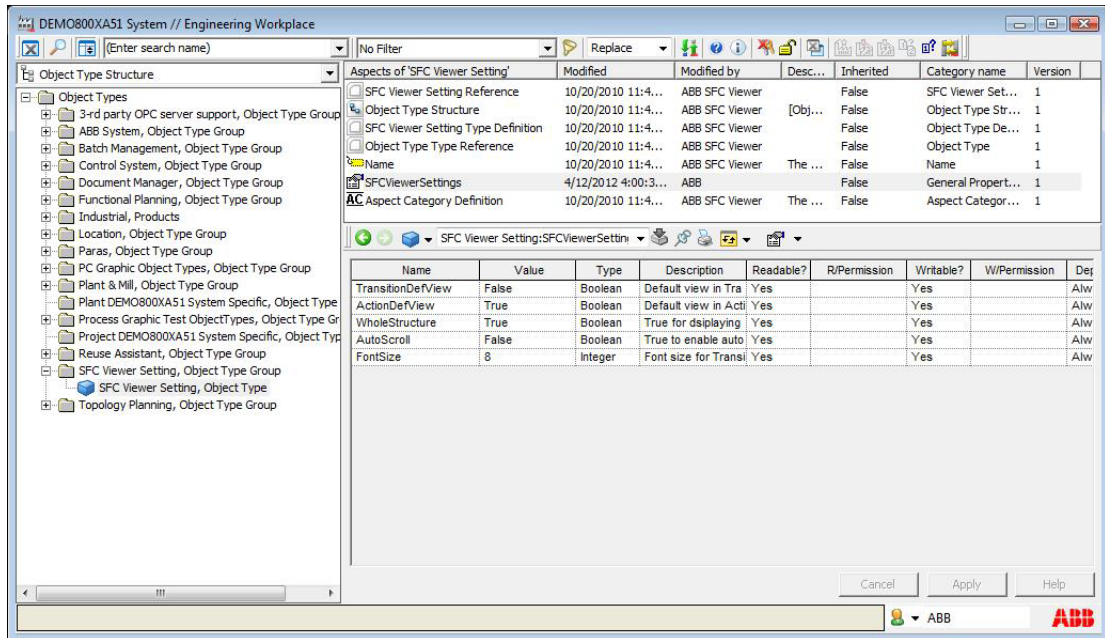

Figure 157. SFCViewerSettings aspect with ActionDefView property
1. Open **Object Type Structure > SFC Viewer Setting > SFC Viewer Settings** aspect. See Figure 157.